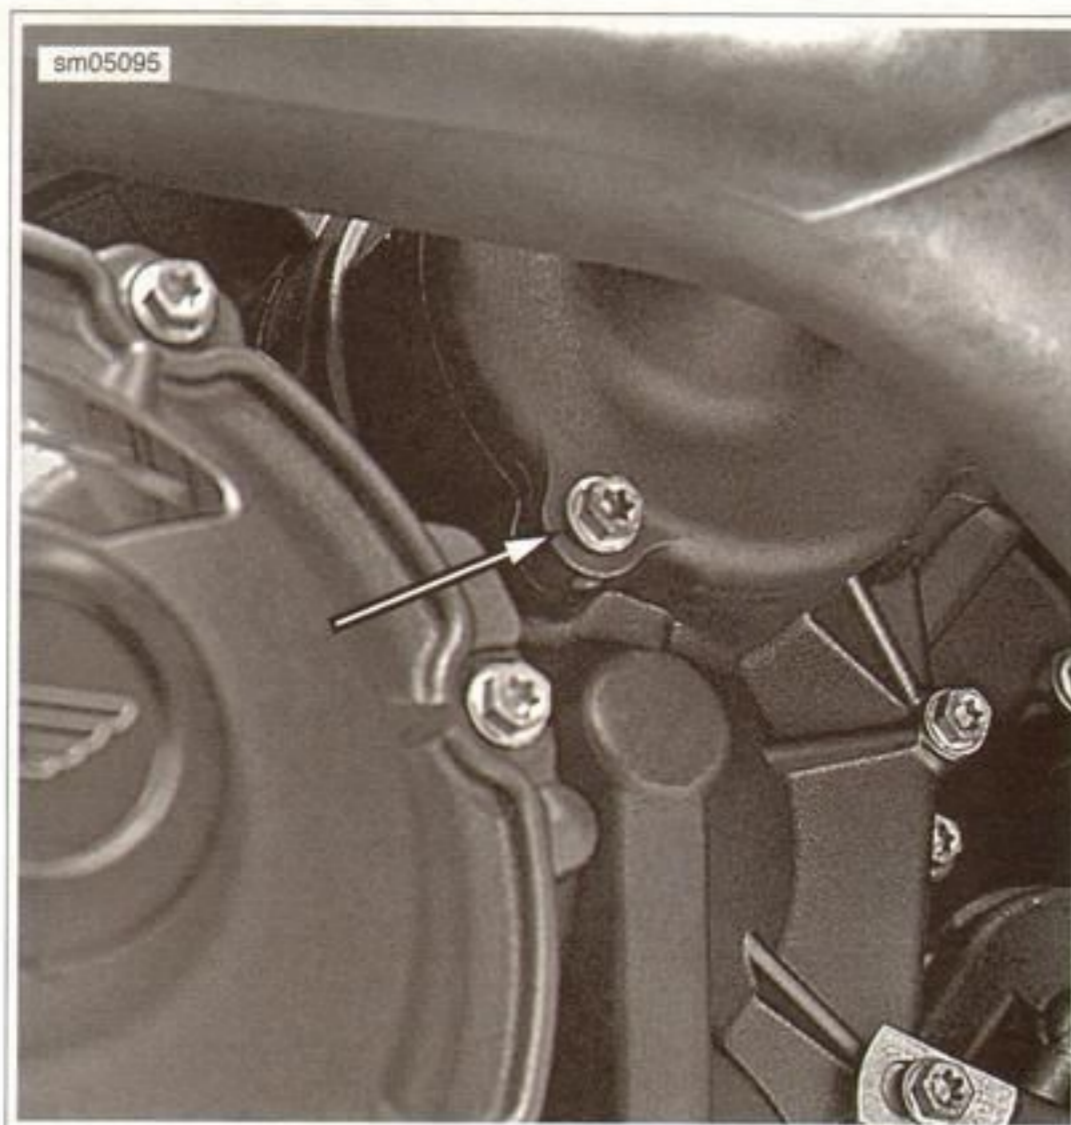

Figure 5-23. Coolant Drain Screw
6. See Figure 5-23. Place a suitable container under right side of engine and remove coolant drain screw from water pump cover to drain cooling system.